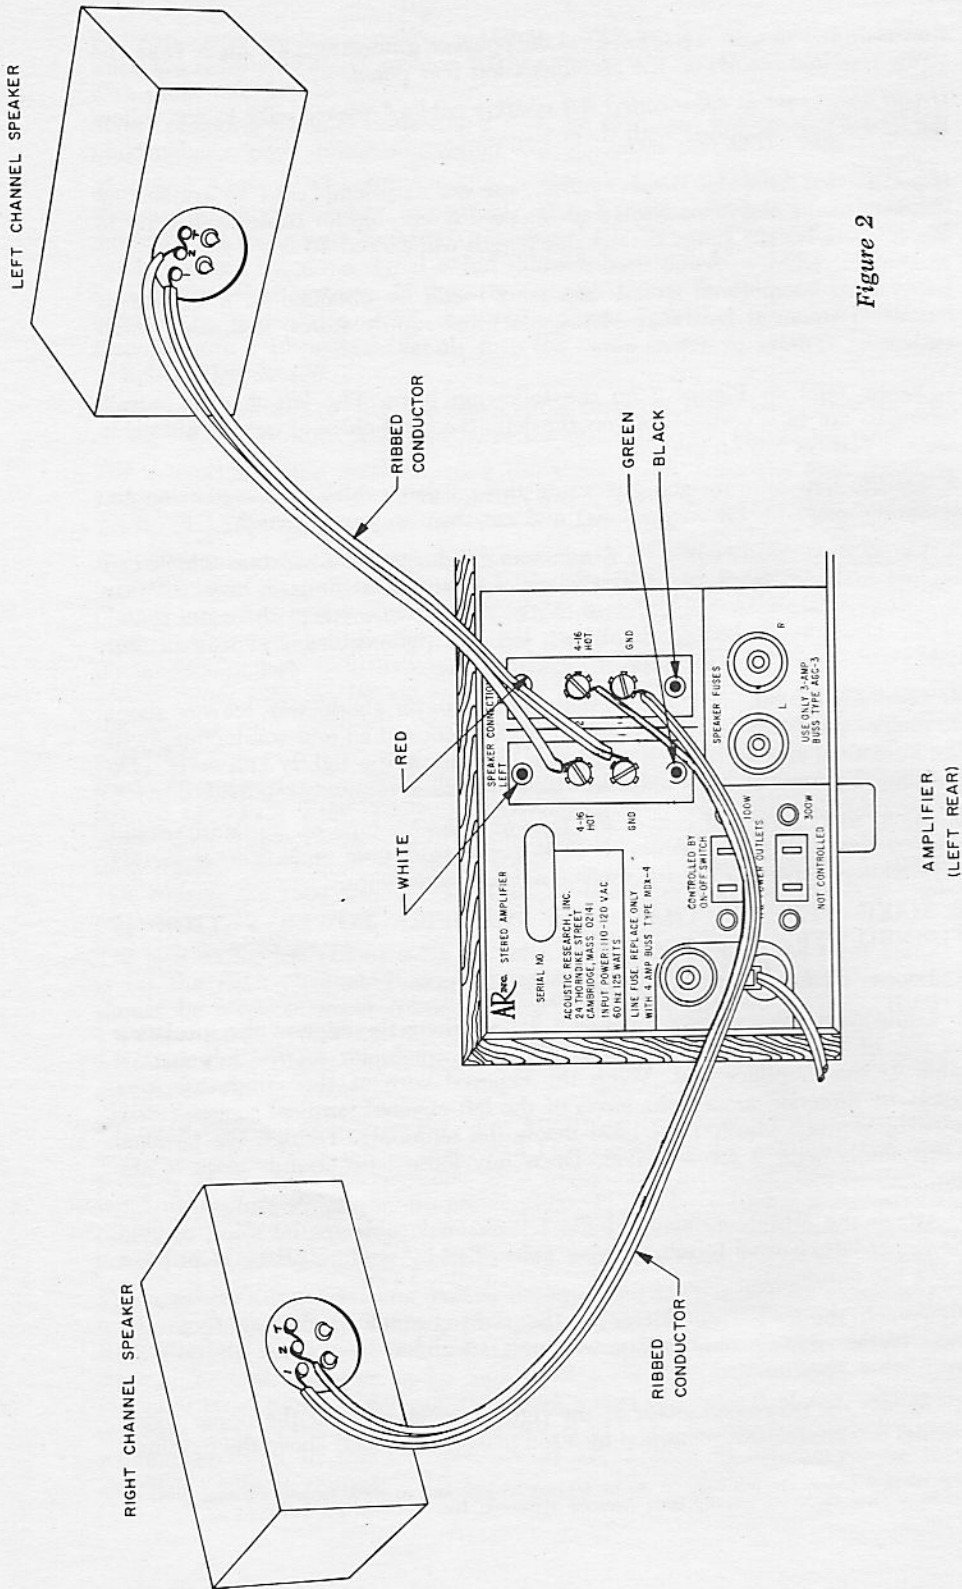

Figure 2
1. Please refer to Figure 2 on the following page. The left-channel output terminals are in a vertical row on the left; the right-channel output terminals are in a vertical row on the right.